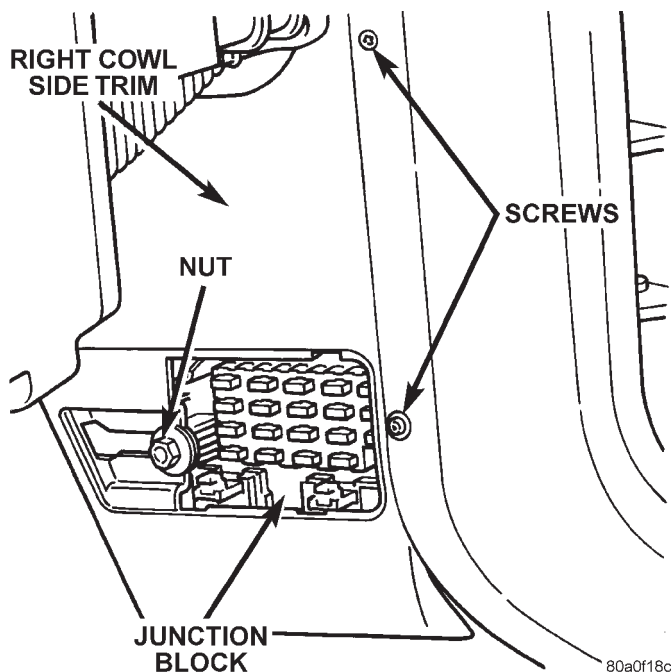

Fig. 3 Right Cowl Side Trim Remove/Install
- (1) Disconnect and isolate the battery negative cable.
- (2) Remove the fuse access panel by unsnapping it from the right cowl side trim panel.
- (3) Remove the nut securing the right cowl side trim to the junction block stud (Fig. 3).